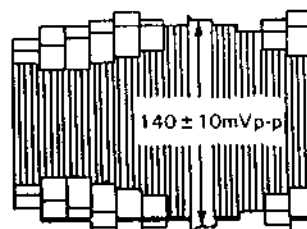

Figure 2-9.
4. Adjust R3304 (recording FM control) so that the sync tip be $140 \pm 10\text{mVp-p}$ as shown in Fig.2-9.